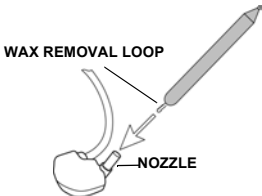

FIGURE 1: Wax Removal
- *Use the supplied wax removal tool to clean the nozzles after each use (see figure 1).*